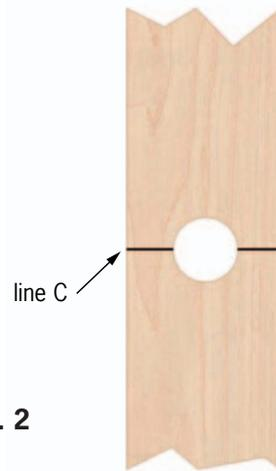

Fig. 2
4. On one slat, drill a hold at the center of line C. (See Fig.2)